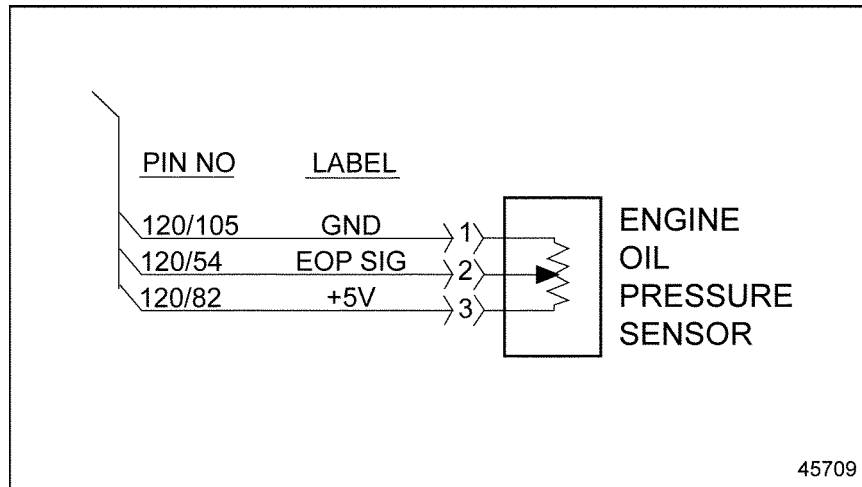

Figure 26-3 Engine Oil Pressure Sensor Wiring
4. Measure the voltage between pins 1 and 3 of the EOP Sensor harness connector. See Figure 26-3.